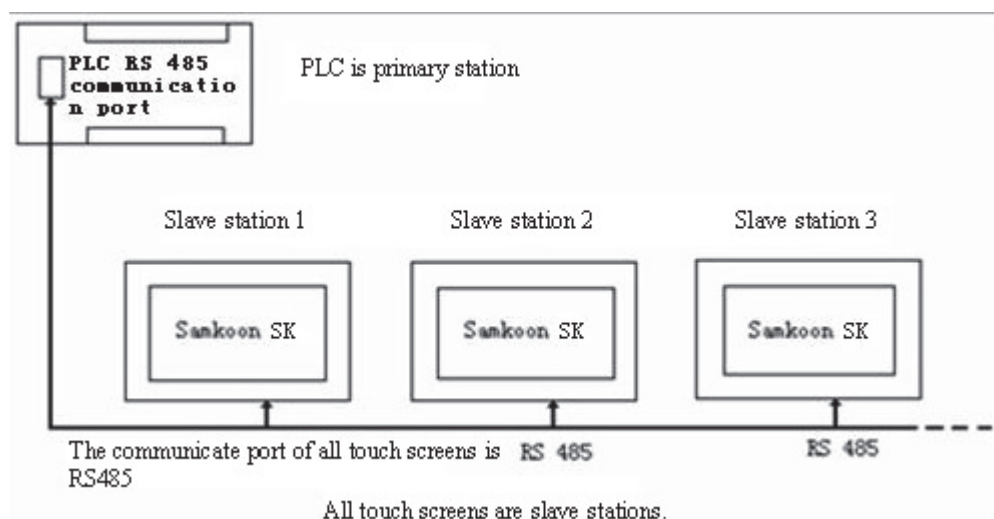

Figure 8-4 Schematic diagram of connection mode “One device with multiple screens” When PLC (RS485) is primary station
2. The communication port connected with PLC is RS485 with connection mode as shown in figure 8-4.